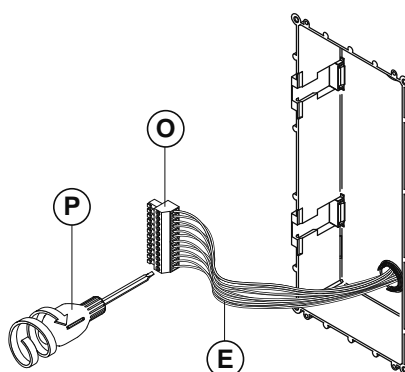
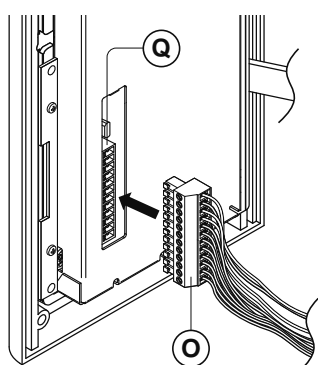

Fig. 50
Fig. 55
5. Next take connecting cables (E) and make the required terminal connections into the terminal block (O) using the screwdriver provided (P) (using the flat blade end), as shown in **Fig.50**;
10. Plug the terminal block (O) (from step 5, **Fig.50**) into the module's terminal block connector (Q), as shown in **Fig.55**. Make any other necessary panel adjustments required (connecting the antenna cable, fitting the SIM card and setting the dip-switches etc.);